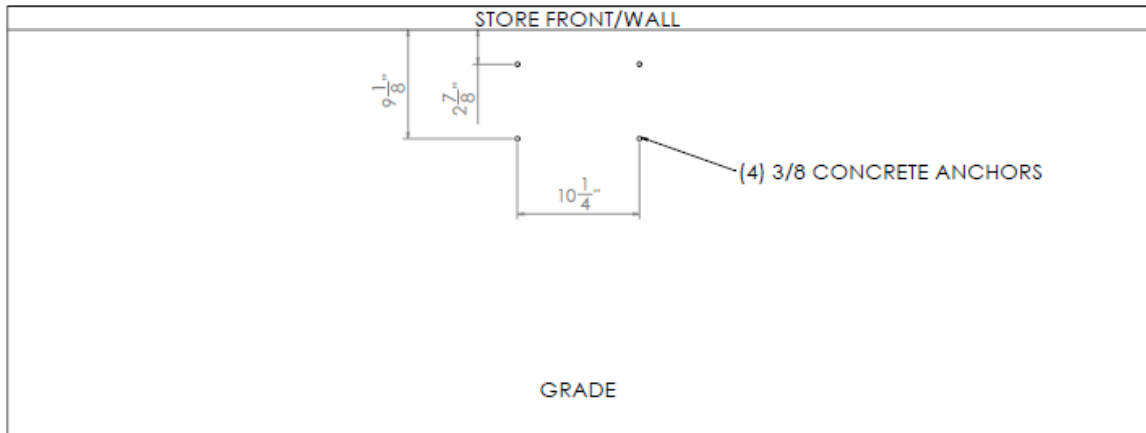

Figure 11: Pedestal Mount (Anchoring Dimensions)
- Figure 11: Pedestal Mount (Anchoring Dimensions)20